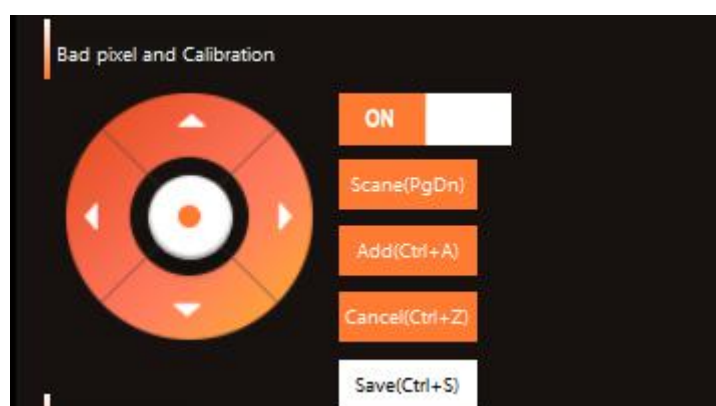

Figure 3.2.2 The process of blind pixel table saved
Step3: Repeat step2 until all blind pixels disappear, click “ Save ” button, as shown in Figure 3.2.2, when “Save ” button turn orange ,it means that the new blind pixel table is saved successfully. When the product is powered on next time, it will remember the coordinates of new added blind pixel.